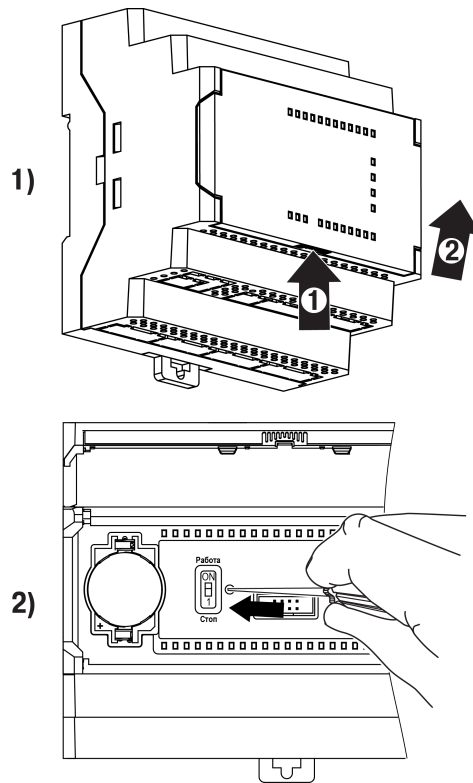

Fig. 4.27 Factory settings restoration
2. Holding on to the ribbed area (see Fig. 4.27, 1, arrow 1), open the front cover (arrow 2).
3. Using a thin tool, press and hold the service button for at least 12 seconds (see Fig. 4.27, 2).